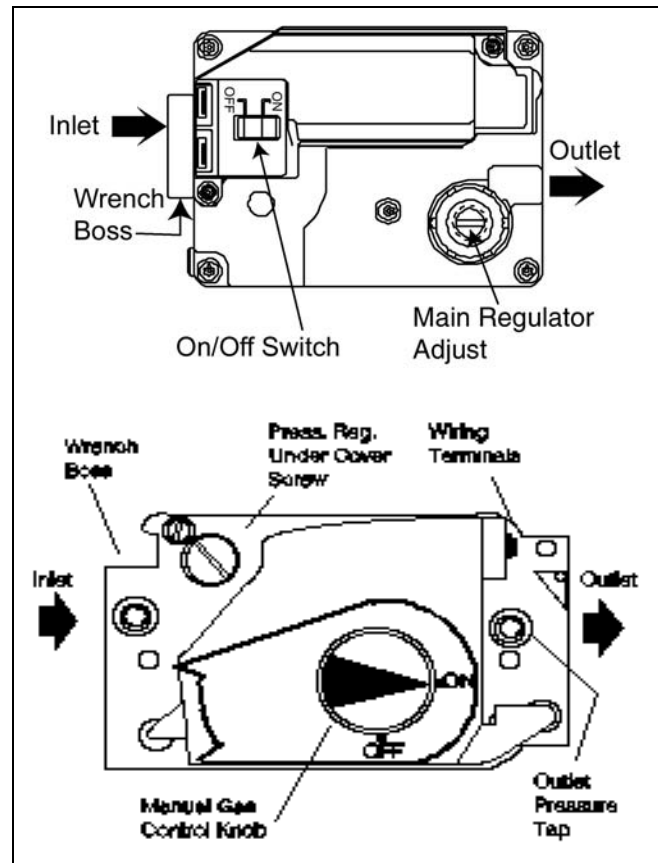

FIGURE 14 : GAS VALVES
Control Circuit Fuse: A 3 amp fuse is provided to protect the 24 volt transformer from overload caused by control circuit wiring errors. This is an ATO 3, automotive type fuse and is located on the ignition control module refer to Figure 14.
2. Refer to Figure 14 on page 16, for location of outlet pressure tap and pressure regulator adjustment cap and screw on main gas valve.